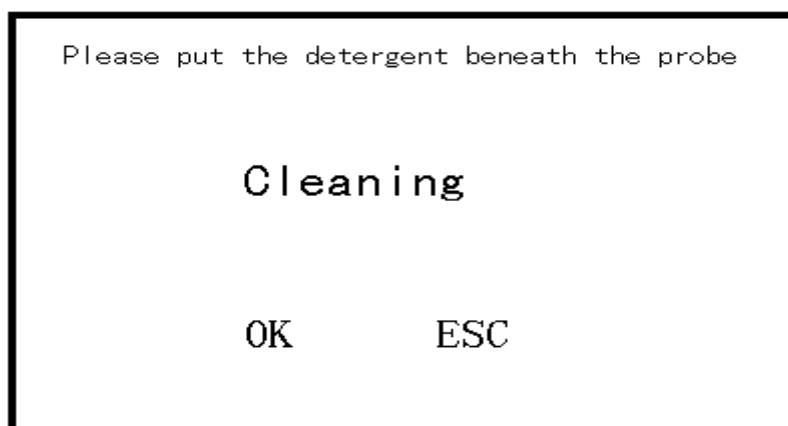

Figure 4-5
- c) At function menu window, shift ↑ ↓, select Tubing clean, press ENTER, “OK” and “ESC” will appear, see Figure 4-5.**